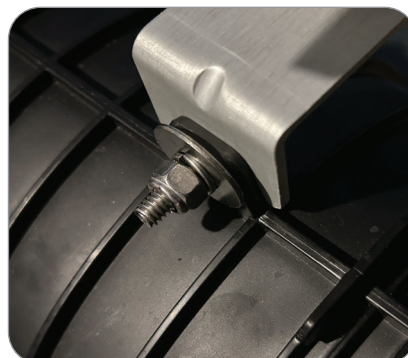

Figure 4
5. Tighten with Can Wrench or 7/16" socket (30-50 in/lbs). (**Figure 4**)